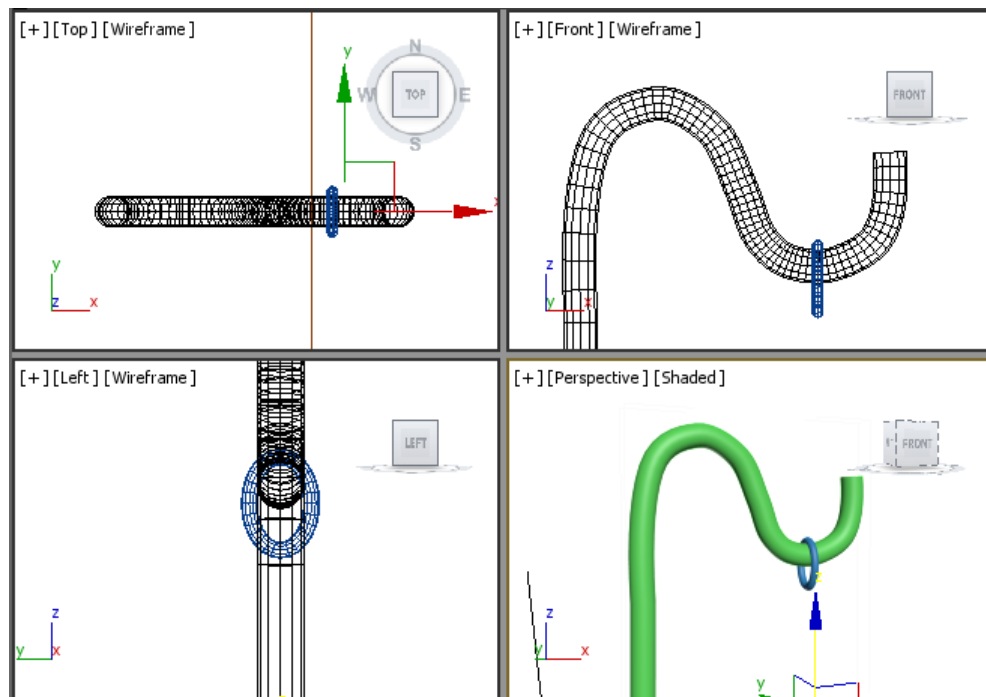

Figure 5-29 The joint aligned in all viewports
- Invoke the **Maximize Viewport Toggle** tool to display all viewports. Next, invoke the **Select and Move** tool from the **Main Toolbar** and align *joint* in all viewports, as shown in Figure 5-29.